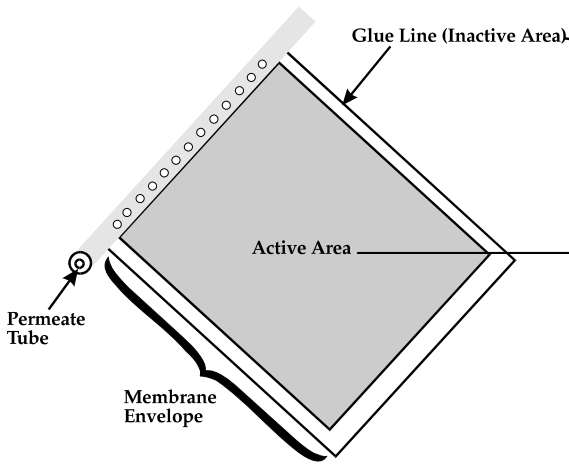

Figure 1
- D. Glue lines Figure 1 & Photo 2